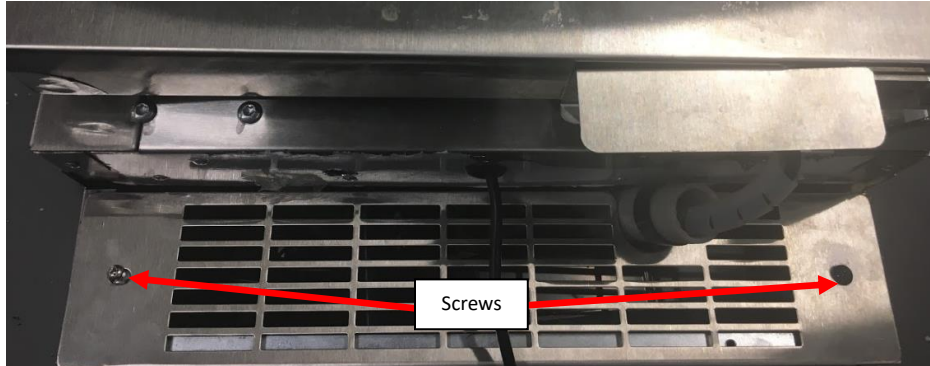

Figure 111: Front Grill installed with screws.
i. Remove the Front Grill by unscrewing the two screws holding it in place. **See Figure 111.**